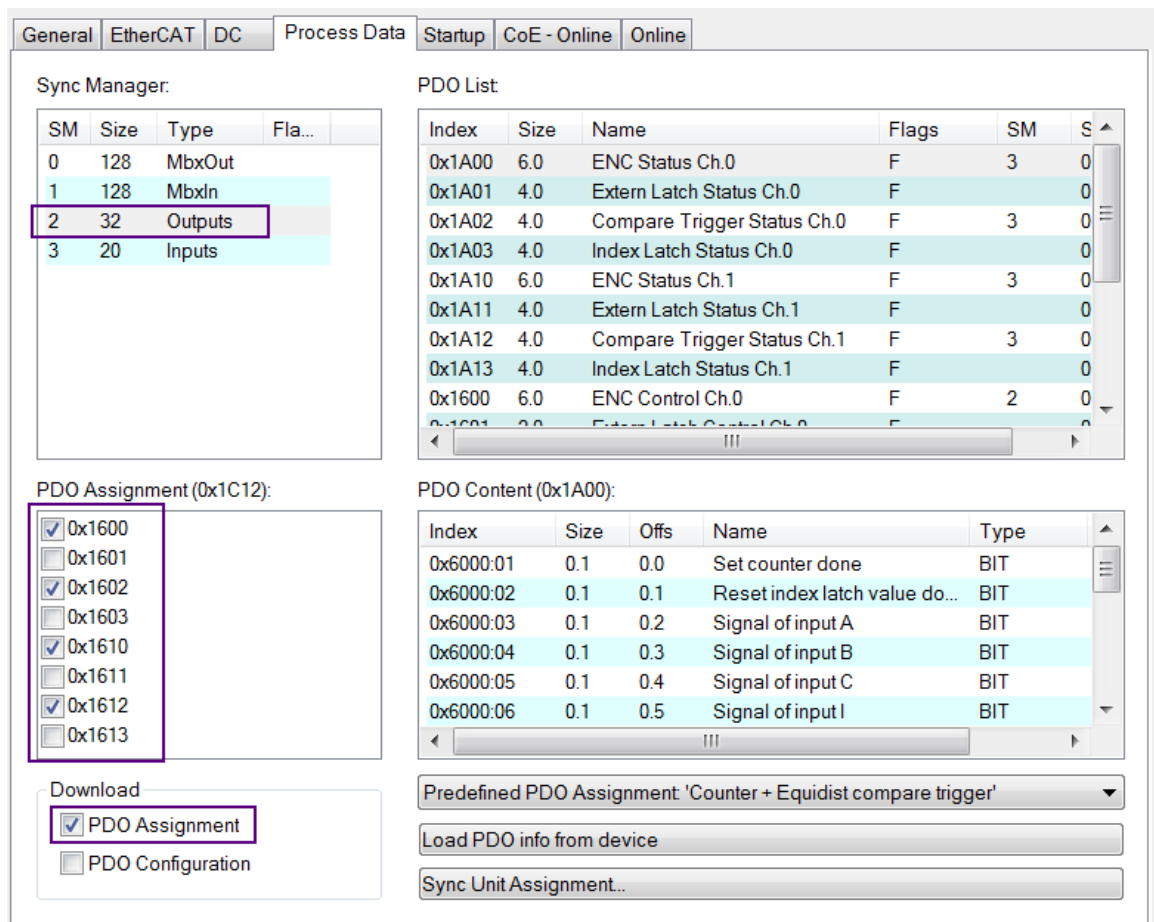

Figure 25: Predefined PDO assignment selection
2. For RxPDO selection: click in the "Sync Manager" window the "Outputs" line and in the "PDO Assignment (0x1C12)" window select for each encoder channel the required RxPDO (see Figure 25). If the variables listed in the RxPDO are not required for the application then deselect the PDO in order to reduce the process data image size.